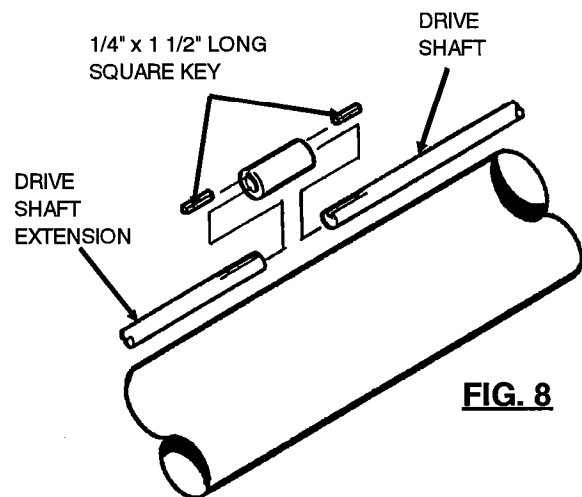
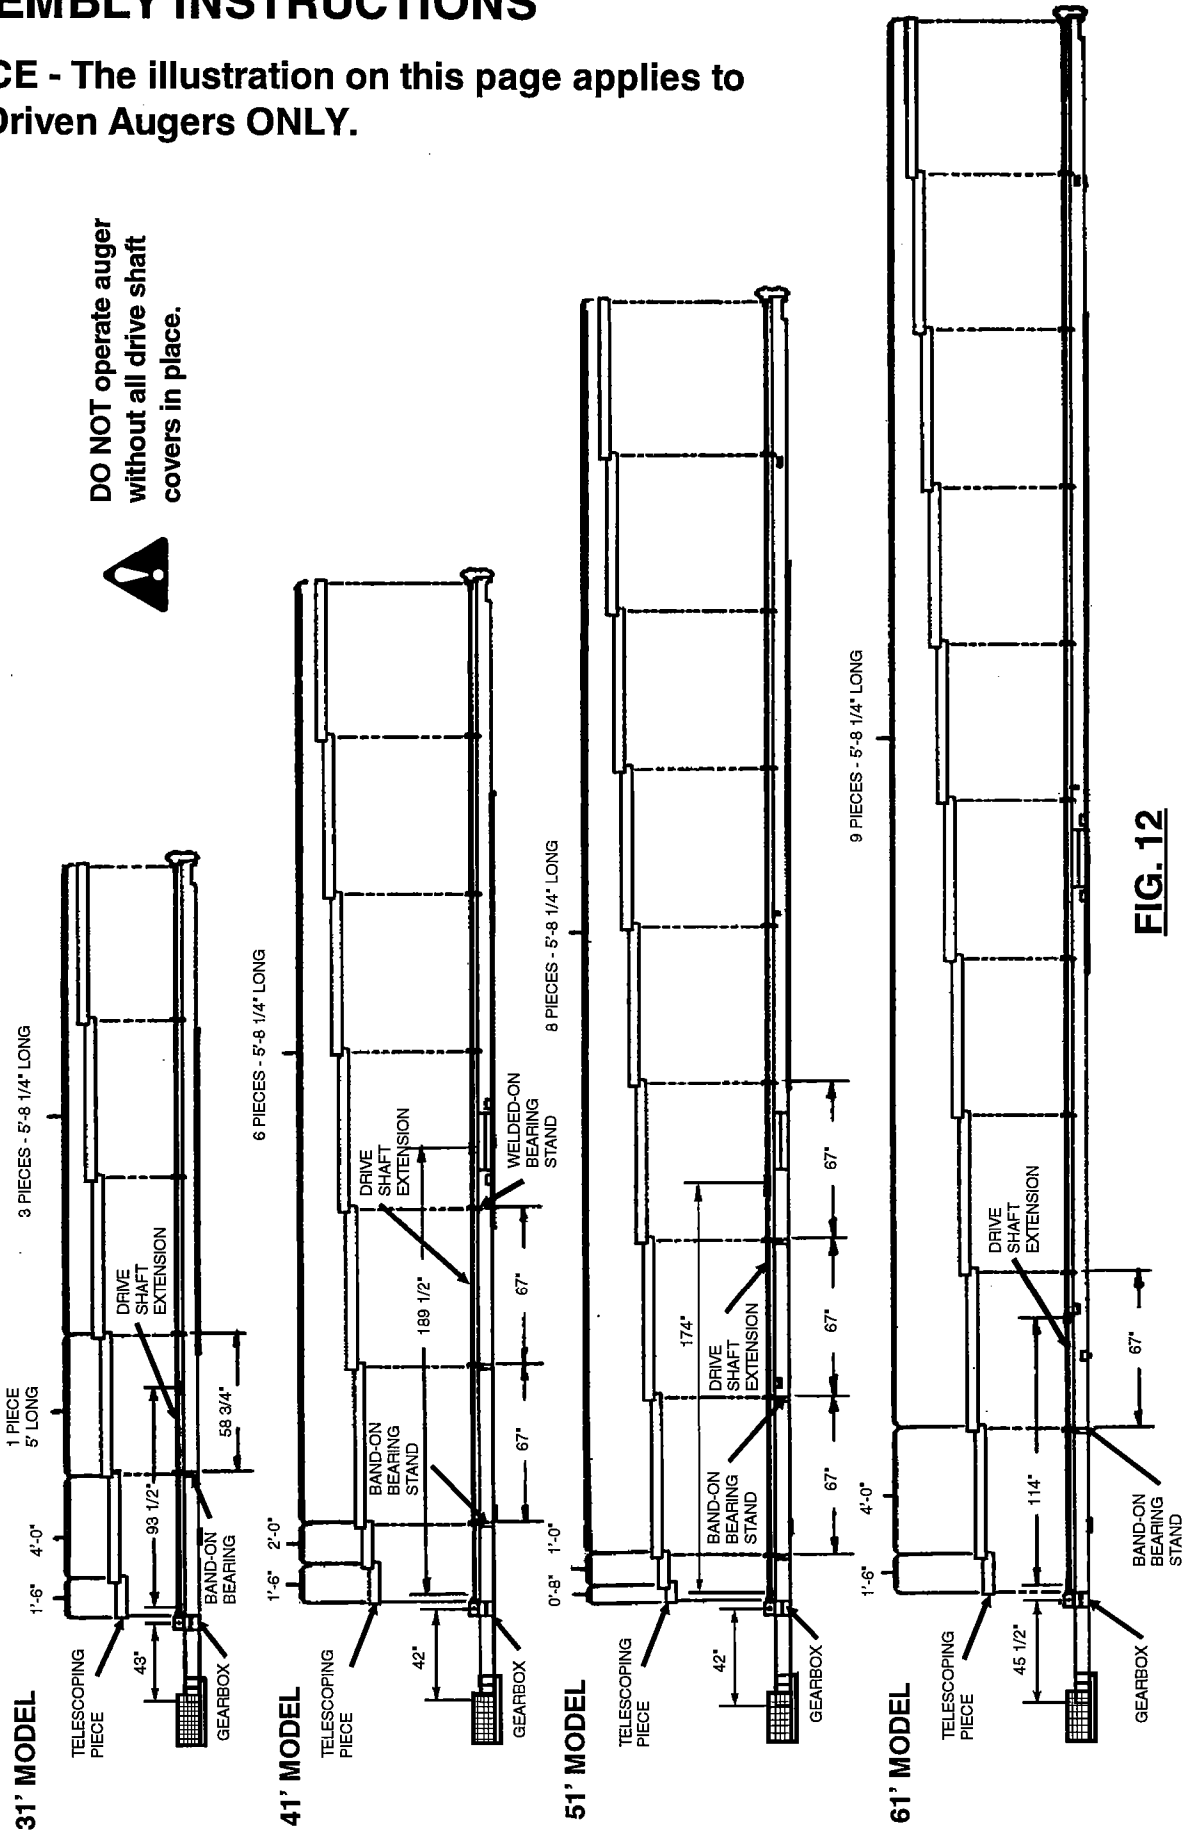

FIG. 8
FIG. 12
2. Slide the extension drive shaft into the bearing stand. Attach the extension drive shaft to the auger drive shaft using a coupler and two 1/4" x 1 1/2" square keys. (See Fig. 8). For correct bearing stand placement, see Fig. 13 on page 22. Fasten band-on bearing stand to upper tube, as shown. Tighten setscrews in the lock collar to lock the bearing to the drive shaft.
2. Slide the bearing stand onto the extension drive shaft. Attach the extension drive shaft to the auger drive shaft using a coupler and two 1/4" x 1 1/2" square keys. (See Fig. 8.) For correct bearing stand placement, see Fig. 14 on page 23. Fasten band-on bearing stand to auger tube, as shown. Tighten setscrews in the lock collar to lock the bearing to the drive shaft.
2. Slide bearing stands onto extension drive shaft. Attach the extension drive shaft to the auger drive shaft using a coupler and two 1/4" x 1 1/2" square keys. (See Fig. 8.) For correct bearing stand placement see Fig. 12 on page 21. Fasten band-on bearing stands to the auger tube as shown. Tighten setscrews in lock collar to lock bearing to the drive shaft.
The covers should be placed on the auger before the undercarriage is installed. **PLEASE REMEMBER THESE COVERS PROVIDE IMPORTANT PROTECTION FOR PERSONS AROUND AN AUGER THAT IS IN OPERATION.** Proper installation is important. The locations of the various lengths of drive shaft covers are shown in Figures 12, 13 & 14 on the following pages, depending on how the auger is driven.